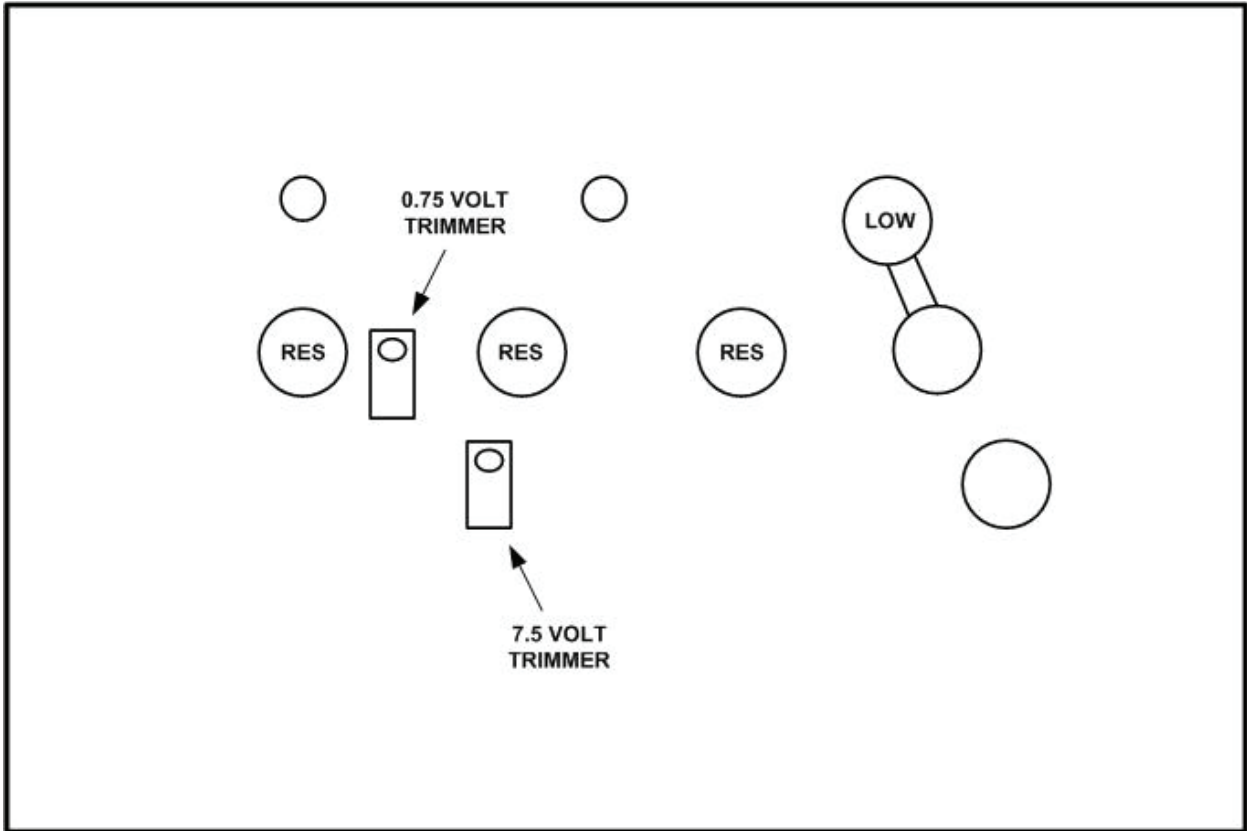

Figure 2. Terminal plate adjustment locations - bottom view.
- (1) Adjust 7.5 VOLT TRIMMER (fig. 2) until multimeter indicates 1.0000 V dc (R).
- (2) Adjust 0.75 VOLT TRIMMER (fig. 2) until multimeter indicates 0.10000 V dc (R).